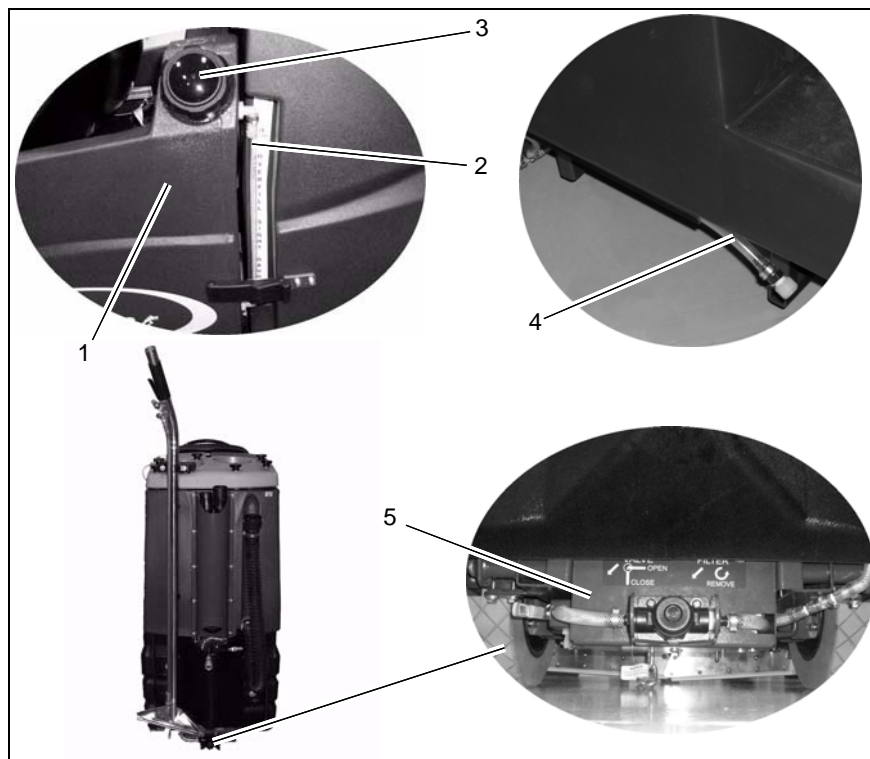

Fig.12
Fill solution tank (Fig. 12/1) before work or as required. Park machine on level ground. Open fill port (Fig. 12/4) and fill tank up to the maximum (1/1 marker) on the sight gauge (Fig. 12/2).
Park machine such that the solution tank drain hose (Fig. 12/5) is located above the drain aperture in the floor. Take tank drain hose from holder and remove cap.
1. Empty solution tank (Fig. 12/1), see paragraph 7.5.2.